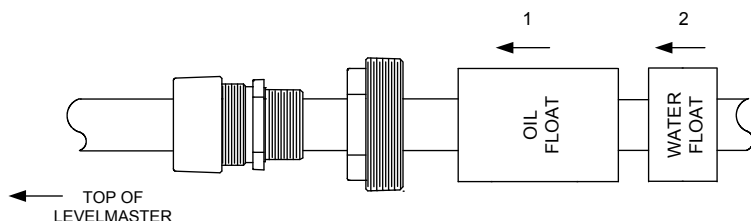

Figure 3: Positioning the floats for dual float configuration
3. Slide the new float(s) onto the bottom of the casing. If using two floats, install in the correct order (Figure 3).